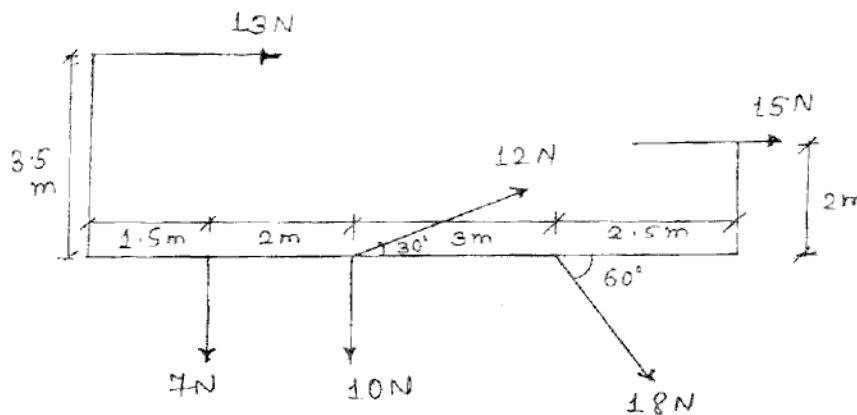

FIG. 1
- (b) Determine the moment of all the forces in the system at point P. (FIG. 1)